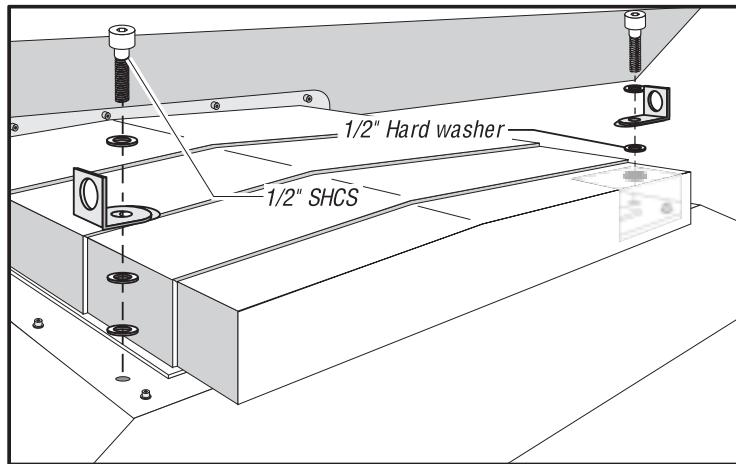

Fig. 1-3 Lifting bracket mounting location for VF-3 and VF-4.
3. Install the lifting brackets with (2) 1/2"-13 SHCS and (2) 1/2' hard washers, [(2) washers under bracket and (1) above bracket], to the base as shown in figure 1-3. Tighten securely.